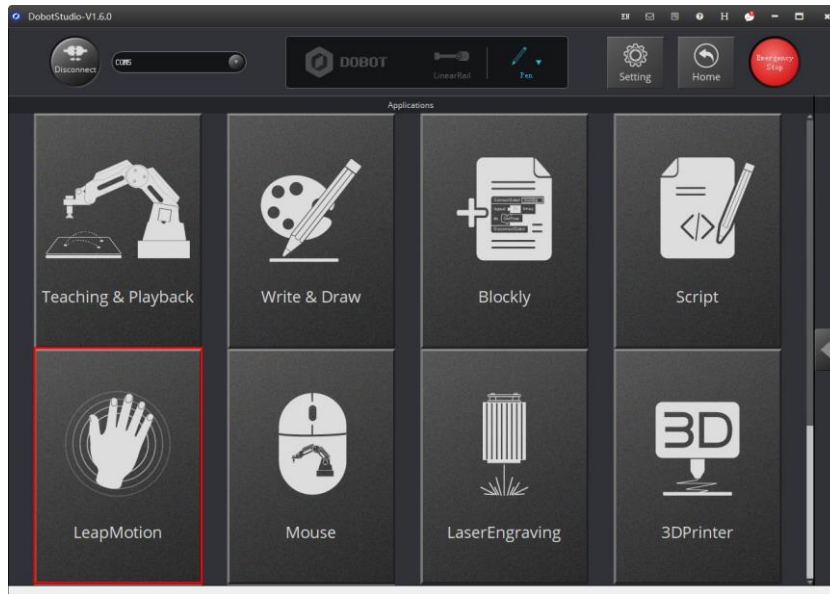

Figure 5.107 Click LeapMotion
Step 2 Click **LeapMotion**, as shown in Figure 5.107.